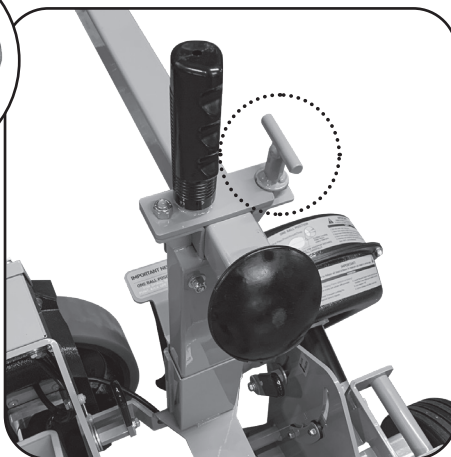

Figure 4 Close latch and tighten wing nut.
3. Close latch over rear leg and tighten with wing nut (See Figure 4).